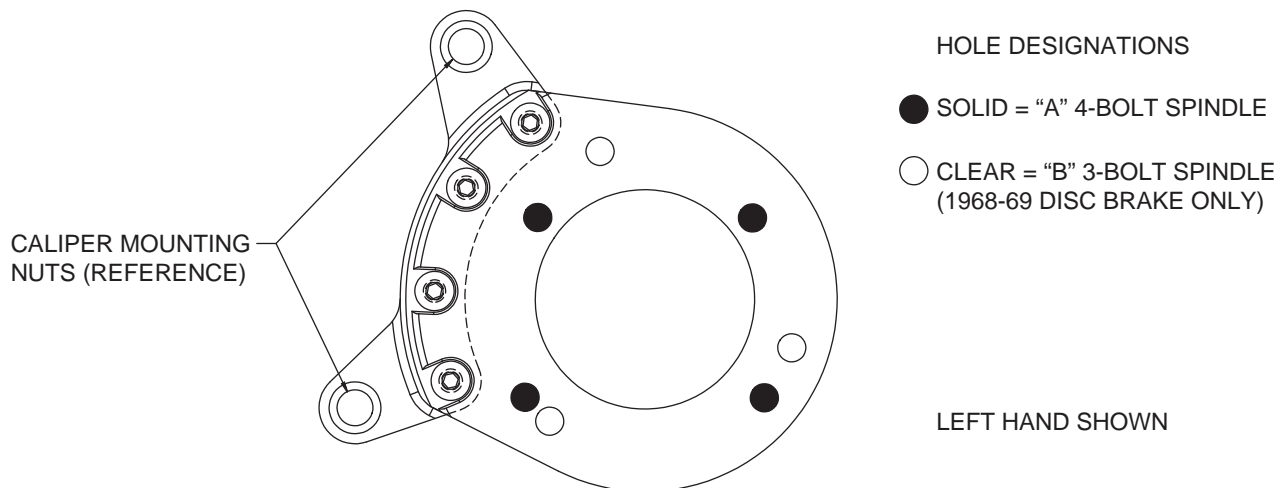
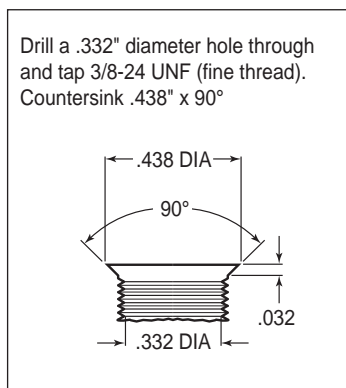
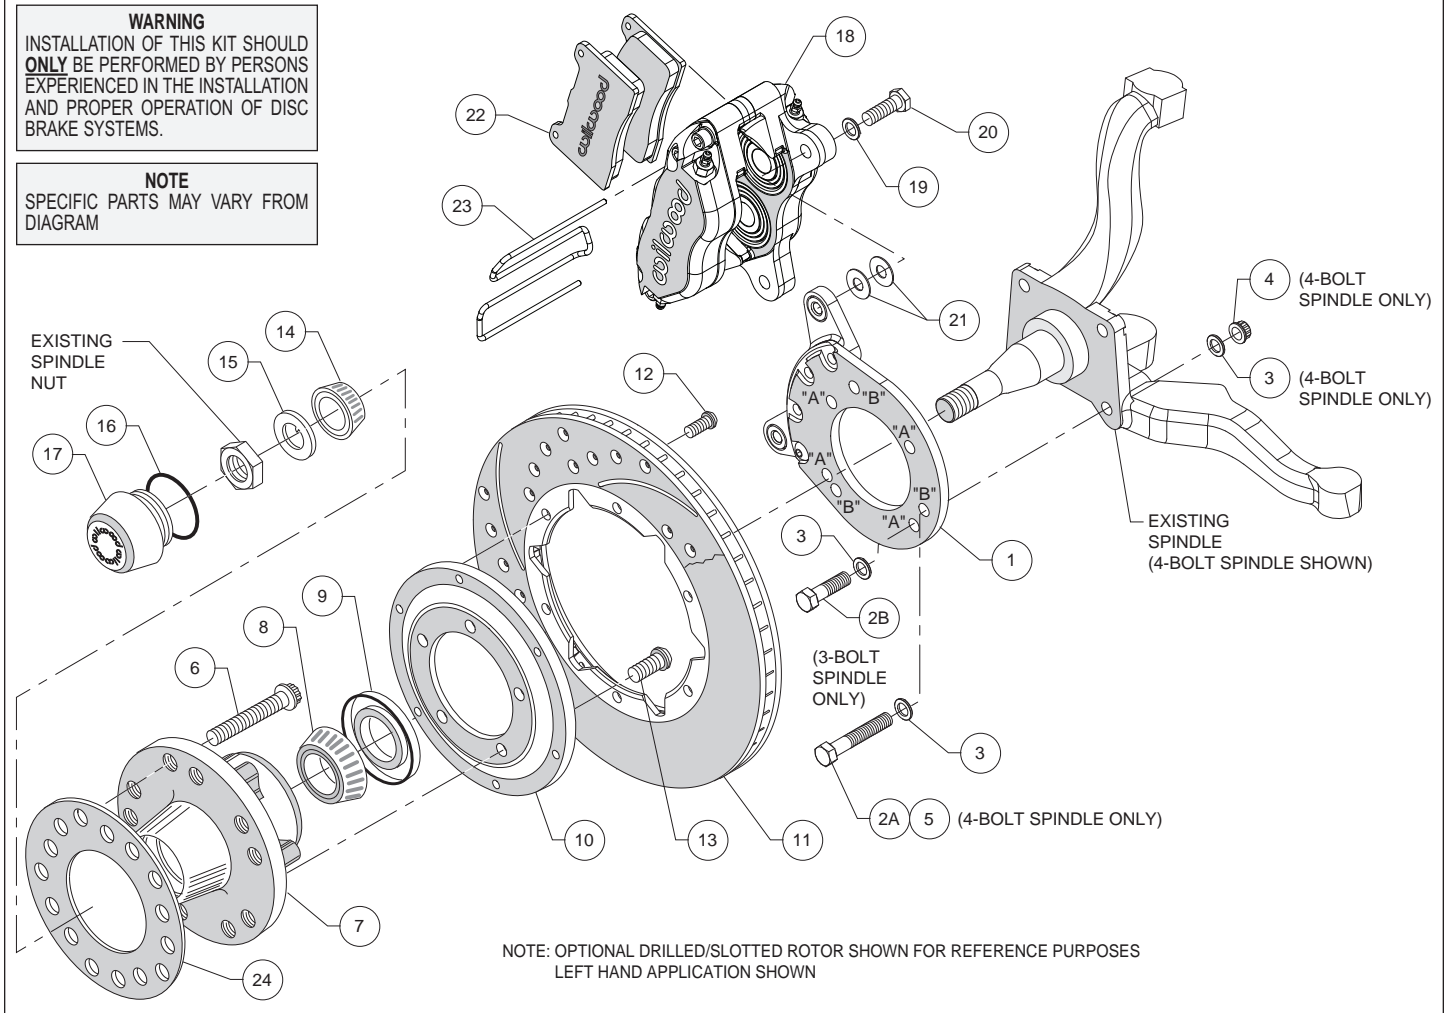
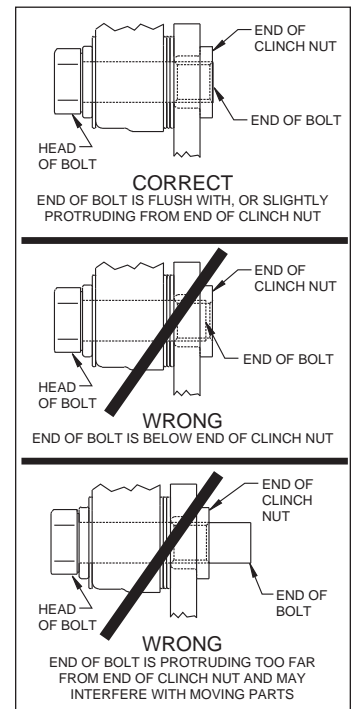

Figure 1. Wilwood Caliper Mounting Bracket
Figure 2. Drill and Tap Detail
Figure 4. Typical Installation Configuration
Figure 5. Clinch Nut Engagement Diagram
This kit has been designed for use with both three and four bolt spindle configurations. The only difference is in how the Wilwood caliper mounting bracket is installed. The same bracket is used for both configurations; only the 1968-69 disc brake spindle utilizes three mounting holes while all other spindles use the four mounting holes (see Figure 1). For your convenience we have supplied bolt kits for both applications (see parts list and Figure 4 as necessary). Use the bolt kit that is applicable to your vehicle and disregard the other one.
Using the caliper mounting bracket as a template (refer to Figure 1 as necessary), locate and verify the three original holes on the spindle that need to be modified. Drill a .332" diameter hole through all three holes, then tap 3/8-24 UNF (fine thread). Countersink the holes to .438" diameter x 90°, as shown in Figure 2.
Assembly Instructions (numbers in parenthesis refer to the parts list, and Figure 4 on the preceding pages): **CAUTION:** All mounting bolts must fully engage clinch nuts. Be sure to check that all bolts are either flush or protruding through flanged side of clinch nut after shimming, Figure 5.
•**NOTE:** This kit uses the same mounting bracket (1) for both the three and four bolt brake spindles. The 4-bolt version, Photo 1, uses four mounting bolts (designated "A"), while the 3-bolt version, Photo 2, uses three (designated "B"). Refer to Figures 1 and 4 for the basic installation position of the bracket and the "A" and "B" reference designations (not physically marked on the brackets).
For 4-Bolt Spindle: Align bracket, using the four "A" holes, to the face of the spindle and attach using bolts (2A and 5), washers (3), and lock nuts (4), as shown in Figure 4. Ensure that the flanged heads of the clinch nuts in the bracket are facing outboard, Photo 1. Torque lock nuts to 30 ft-lb.
For 3-Bolt Spindle (1968-69 Disc Brake): Align bracket, using the three "B" holes, to the face of the spindle and attach using bolts (2B) and washers (3), as shown in Figure 4. Finger tighten. Ensure that the flanged heads of the clinch nuts in the bracket are facing outboard, Photo 2. Remove bolts one at a time, apply red *Loctite*® 271 to threads, and torque to 40 ft-lb.
- Orient the rotor (11) and the rotor adapter (10) as shown in Figure 4 and Photo 5. Attach the rotor to the adapter using bolts (12). Using an alternating sequence, apply red *Loctite*® 271 to the threads, and torque to 25 ft-lb.
- Mount the adapter/rotor assembly (10/11) to the hub (7) using bolts (13), as shown in Figure 4 and Photo 6. Using an alternating sequence, apply red *Loctite*® 271 to the threads, and torque to 45 ft-lb.
- Pack the small outer bearing cone (14) with high temperature disc brake bearing grease and install into hub (7). Slide the hub/rotor assembly onto the spindle. Secure using spindle washer (15) and OEM spindle nut, Photo 7. Adjust bearings per OEM specifications. Install saved OEM nut lock (if any) and a new cotter pin (not included).
- Screw dust cap (17) into hub (7), Photo 8. Friction created by the o-ring (16) on the dust cap keeps it from unscrewing. **NOTE:** The O.D. of the existing OEM spindle washer may be larger than the I.D. of the dust cap not allowing it to seat against the hub face. Therefore, use the spindle washer (15) supplied with the kit instead of the OEM washer.
- NOTE:** Please reference the caution statement at the beginning of the assembly instructions. Mount the caliper (18) onto the caliper mounting bracket (1) using bolts (20) and washers (19), as shown in Figure 4. Initially place two .035" thick shims (21) on each bolt between the caliper and the bracket, Photo 9. Temporarily tighten the mounting bolts and view the rotor (11) through the top opening of the caliper. The rotor should be centered in the caliper, Photo 10. If not, adjust by adding or subtracting shims between the bracket and the caliper. Always use the same amount of shims on each of the two mounting bolts. **NOTE:** The end of each bolt must be flush with or slightly protruding from the head of the clinch nut, as shown in Figure 5. If necessary place spare shims between washer (19) and caliper